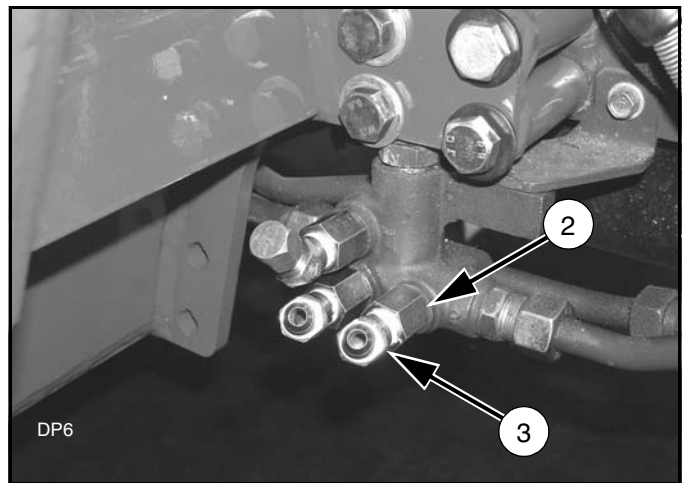

Figure 16. Hydraulic Fittings Installed
3. Install adapters (2) and elbows (3) into the T (RETURN), N (PBV), and P (PRESSURE) ports on the hydraulic manifold. See Figure 16.